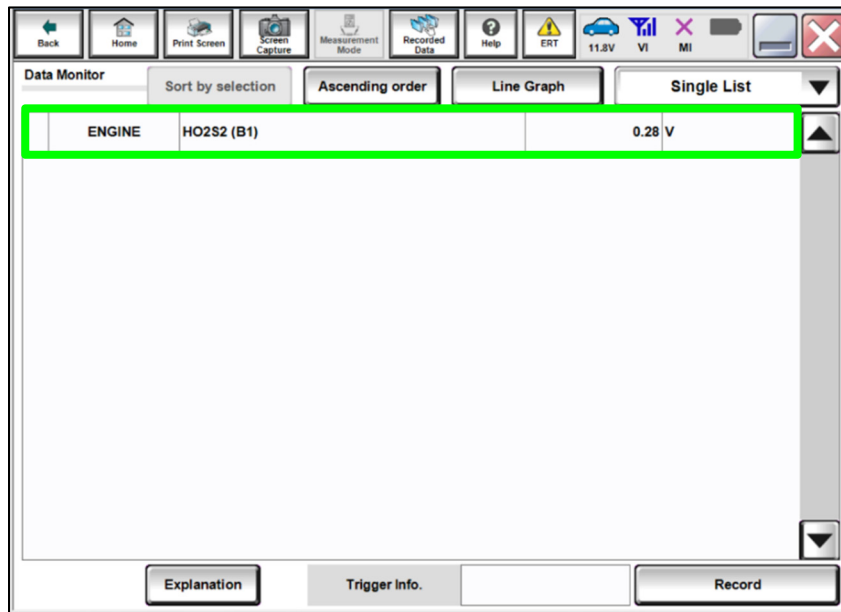

Figure 6
11. Check the Rear O2 Sensor (**HO2S2 (B1)**) voltage in the data monitor screen (Figure 6).